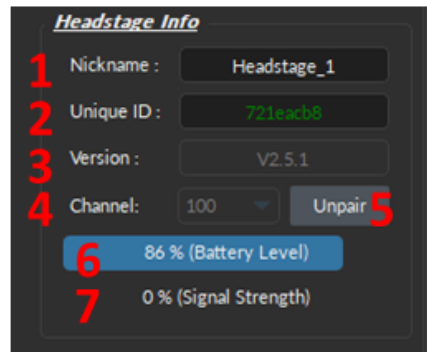

Figure 9.53: Acquisition View, Controls
The **Headstage Info** box (Fig. 9.53) displays the *EP Console*-specific elements which are important to pair, control and monitor the wireless headstage. The following elements are included
1. The **Nickname** text-box (Fig. 9.53, 1) allows the user to change the name used for the connected headstage.
2. The **Unique ID** box (Fig. 9.53, 2) displays the unique ID sequence associated with the headstage currently in use.
3. The **Version** box (Fig. 9.53, 3) displays the headstage firmware version.
4. The **Channel** drop-down list (Fig. 9.53, 4) shows the channel currently in use by the headstage. When using two headstages, the channel must be different for each headstage.
5. The **Pair** button (Fig. 9.53, 5) is used to pair an active headstage to a console. When a headstage is paired, it becomes the **Unpair** button, which unpairs the active headstage associated with the given antenna.
6. The **Battery Level** bar (Fig. 9.53, 6) displays the headstage battery level, in %, at all times.
7. The **Signal strength** bar (Fig. 9.53, 7) displays the percentage of data packets lost during the WiFi transmission. If the signal strength is acceptable (100-76%) the bar appears blue. If the signal strength is low (75-50%), it will appear yellow. If the signal strength is critically low (<50%), it will appear red. Note that the signal will weaken if the animal/headstage is too far from the antenna or if there are obstructions between them.